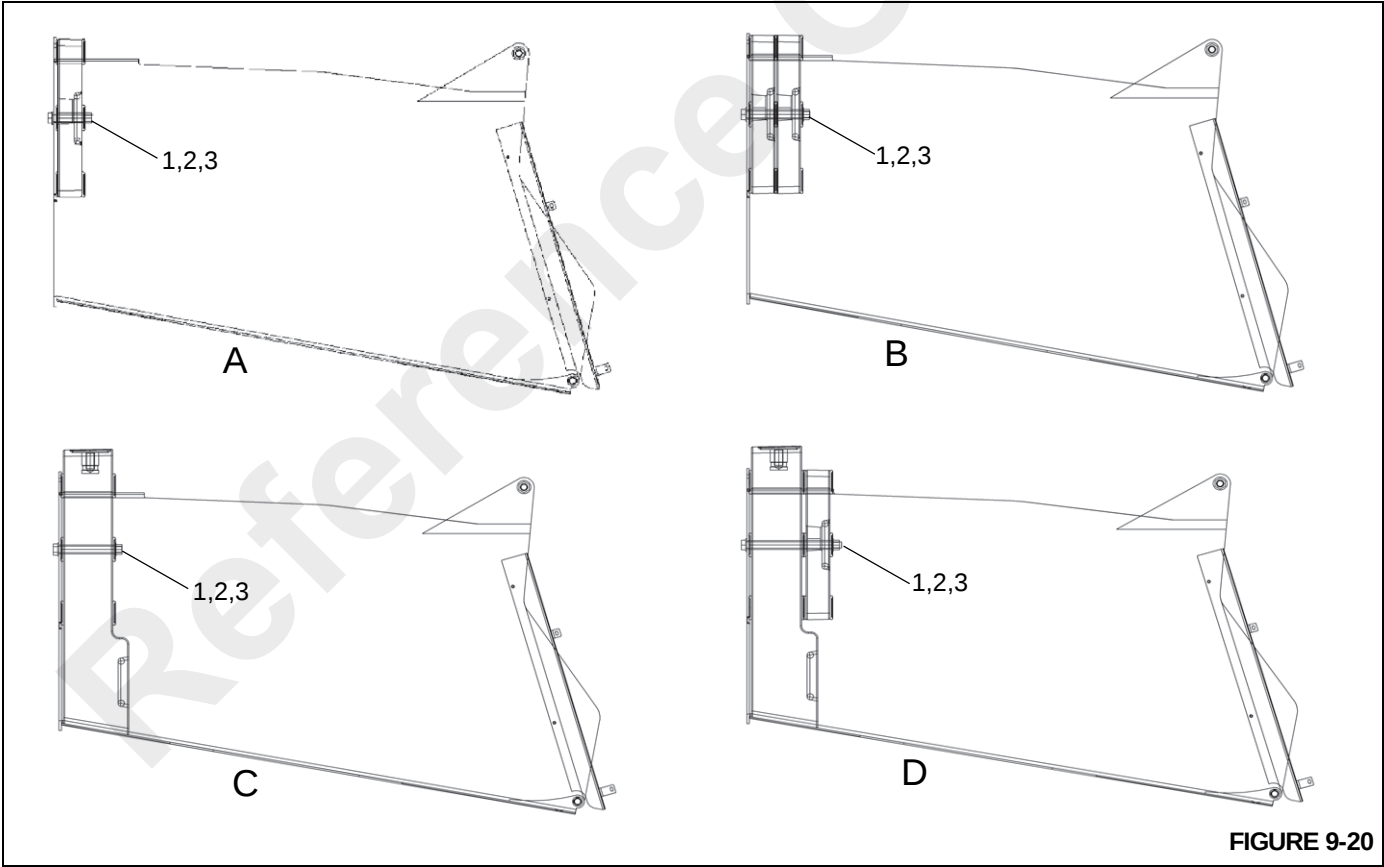

FIGURE 9-20
Each NBT40 and NBT45 model crane is equipped with a different removable counterweight combination. See Figure 9-20 and the following counterweight table for the proper crane counterweight combination.
Use only the counterweight plate combinations as shown in the following counterweight table and Figure 9-20.
Serious injury or death may occur if lifting weight above the crane rated capacity or using a weight combination not shown in the counterweight table and Figure 9-20.
4. Remove the two bolts (1, Figure 9-20), lockwashers (2) nuts (3) securing the counterweight to the crane support weldment. Lift and remove the counterweight from crane.
With the lifting device still attached, align the two counterweight and crane support weldment holes and install two bolts (1, Figure 9-20), lockwashers (2), nuts (3).